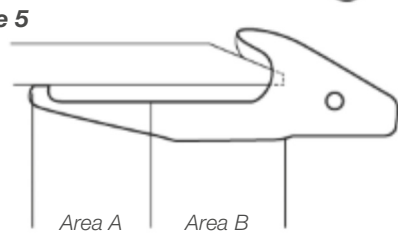

Figure 5
6. Polish the welding surface with a grindstone trying to maintain the grooves caused by the grindstone parallel to the border of the lip (Fig 5).